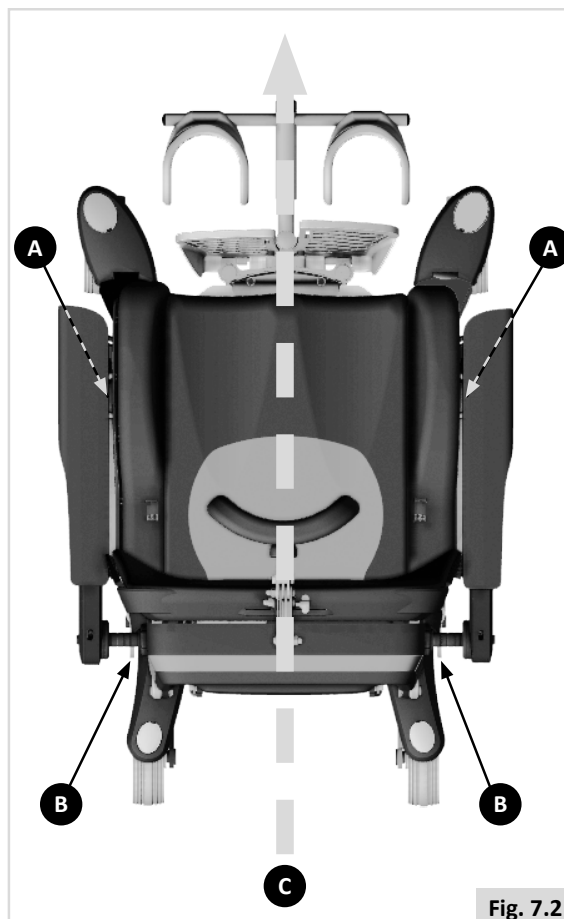

Fig. 7.2
- Secured with a 4-point strap restraint system (2 in the front, 2 in the back (Fig.7.2), that conforms to:
- The wheelchair can only be secured by using the tie-down points on the wheelchair's frame (Fig. 7.2 - 7.6).